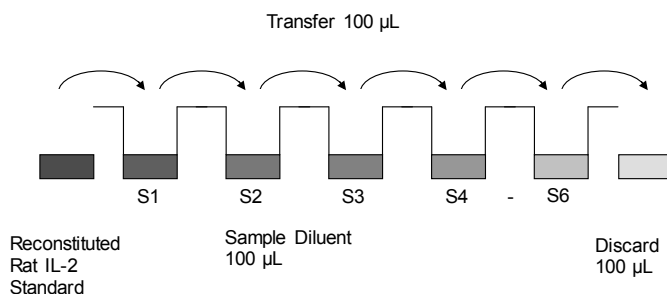

Fig. 7 Dilute standards - microwell plate
3. Standard dilution on the microwell plate (Alternatively the standard dilution can be prepared in tubes - see "External standard dilution" on page 3): Add 100 µL of Sample Diluent in duplicate to all standard wells. Pipette 100 µL of prepared standard (see "Rat IL-2 standard" on page 3, concentration = 4000 pg/mL) in duplicate into well A1 and A2 (see Table 1). Mix the contents of wells A1 and A2 by repeated aspiration and ejection (concentration of standard 1, S1 = 2000 pg/mL), and transfer 100 µL to wells B1 and B2, respectively (see Figure 7). Take care not to scratch the inner surface of the microwells. Continue this procedure 4 times, creating two rows of rat IL-2 standard dilutions ranging from 2000.0 to 62.5 pg/mL. Discard 100 µL of the contents from the last microwells (F1, F2) used.